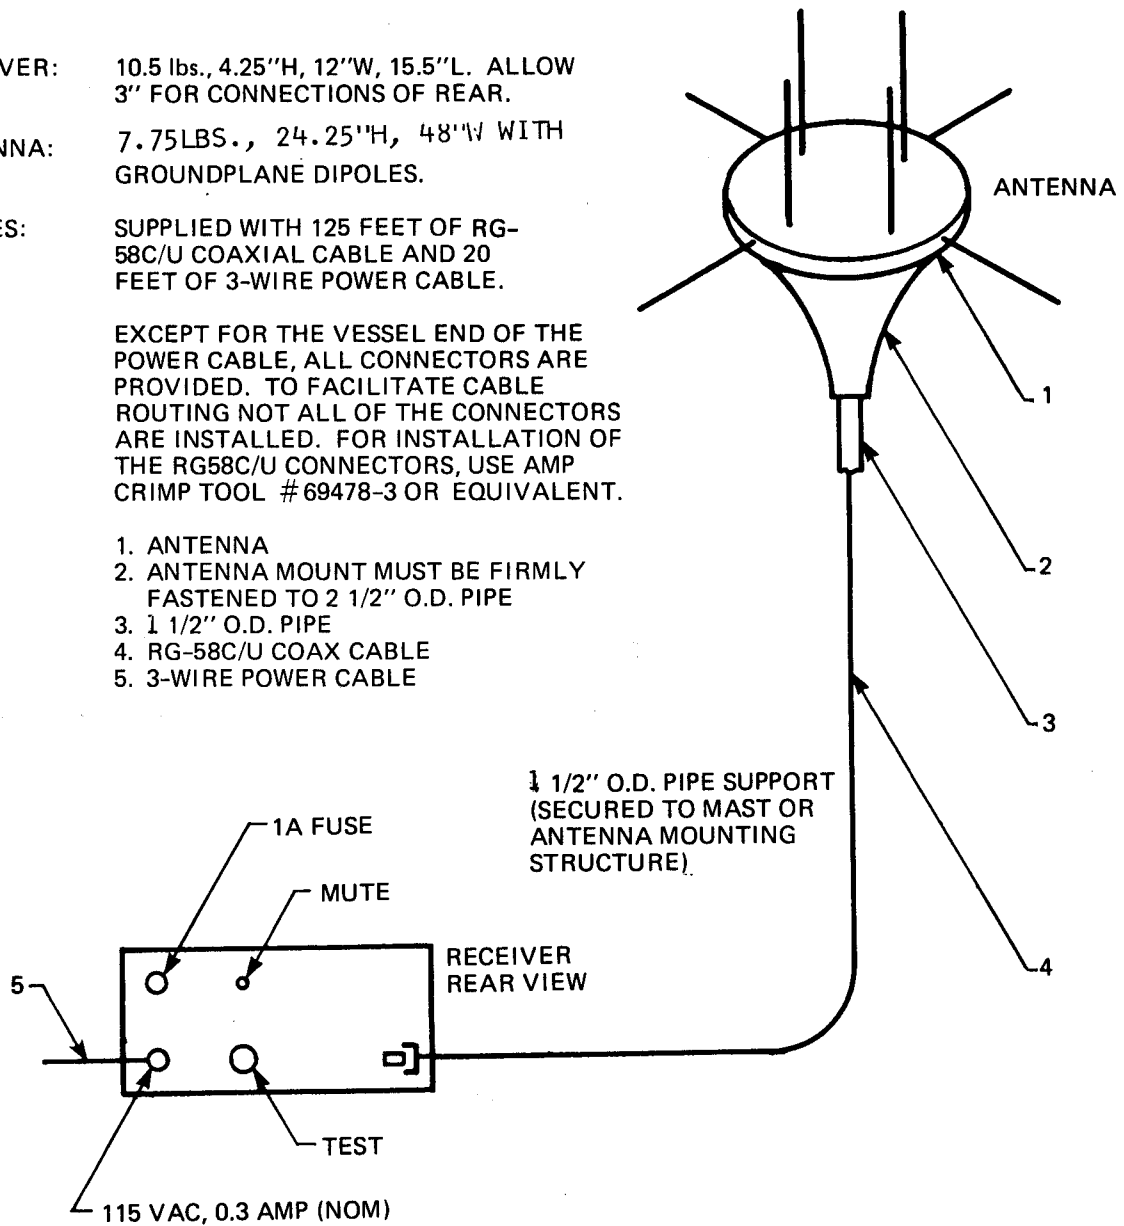

Figure 7-1. Direction Finder Cable Assembly Drawing
7.1.1 Cable Assy. Diagram.- Figure 7-1 is a Cable Assy. diagram for the AN/SRD-22. Refer to Section II of this manual for cabling details, including connectors and cables used, maximum allowable length of cables, wire color codes and connector pin assignments.